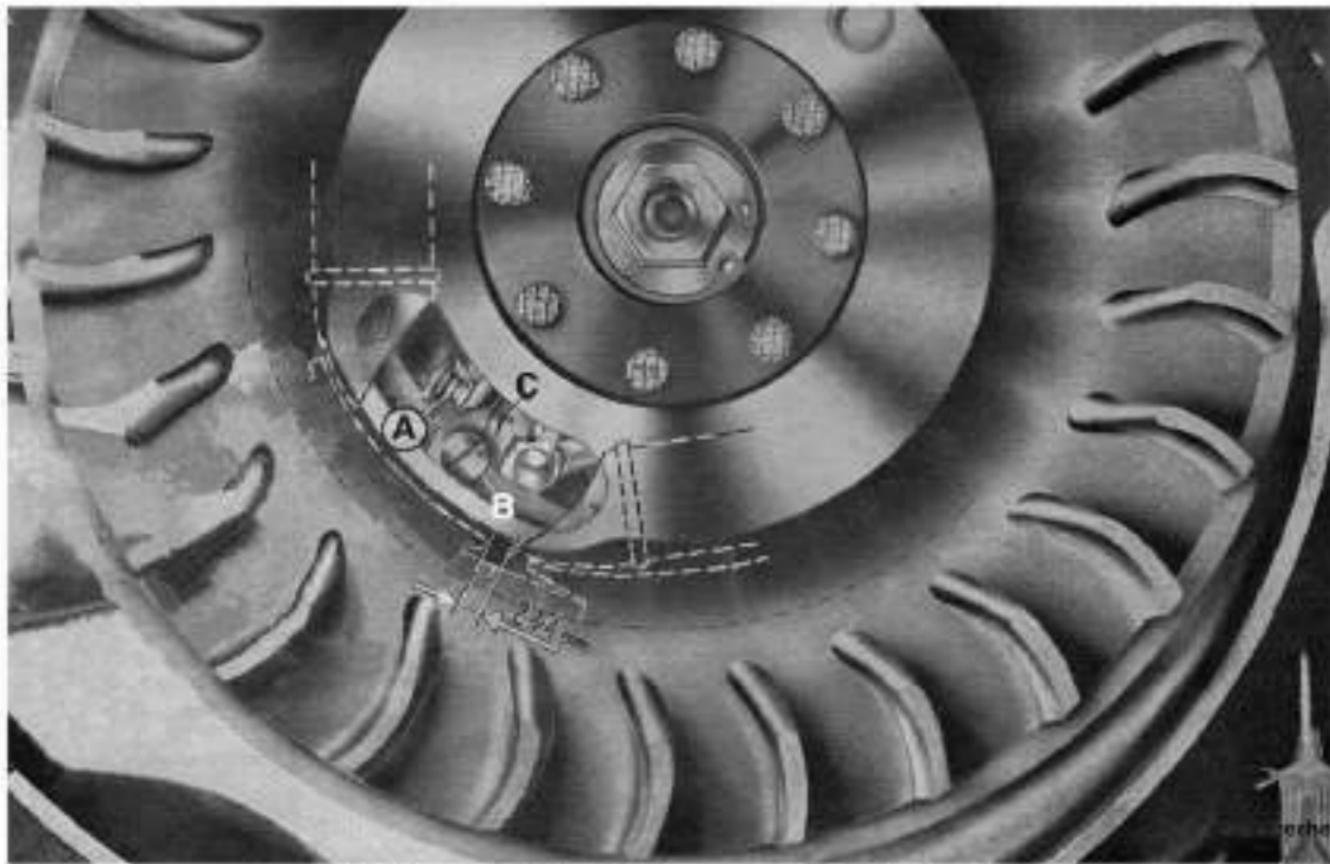

Fig. 16 - Operations for checking the <magnetic> timing of the wheel.
| CHECKING AND SETTING THE FLYWHEEL MAGNETIC TIMING | <ol style="list-style-type: none"> 1) Selector in neutral, take off the rubber plug located on the rotor and rotate it by hand until the contact breaker unit (fig. 16) is seen through the hole of the flywheel rotor. 2) At the position indicated in the figure the contact breaker points « A » should start to open, i. e. when the extremity of the coil is at a distance of 2 + 4 mm. (0.078" ± 0.15) from the respective pole shoe. 3) By rotating again the rotor by hand, the max. opening should be between the limits 0.3 to 0.5 mm. (0.011" to 0.019"). 4) If the conditions as per points 2) - 3) are not obtained, unscrew the screw « B » and rotate the cam « c » until fo-re-said conditions are obtained. | <p>In order not to disturb ignition timing, do not slacken the stator plate or coil securing screws.</p> <p>If necessary to adjust the spark advance, consult the Service Station.</p> <p>Ensure screw is tightened having finished the operation.</p> |
- 3) - Clean, and if necessary, register the contact breaker point (fig. 16). To avoid a faulty ignition or some other defects, **consult your Service - Station for this operation.**